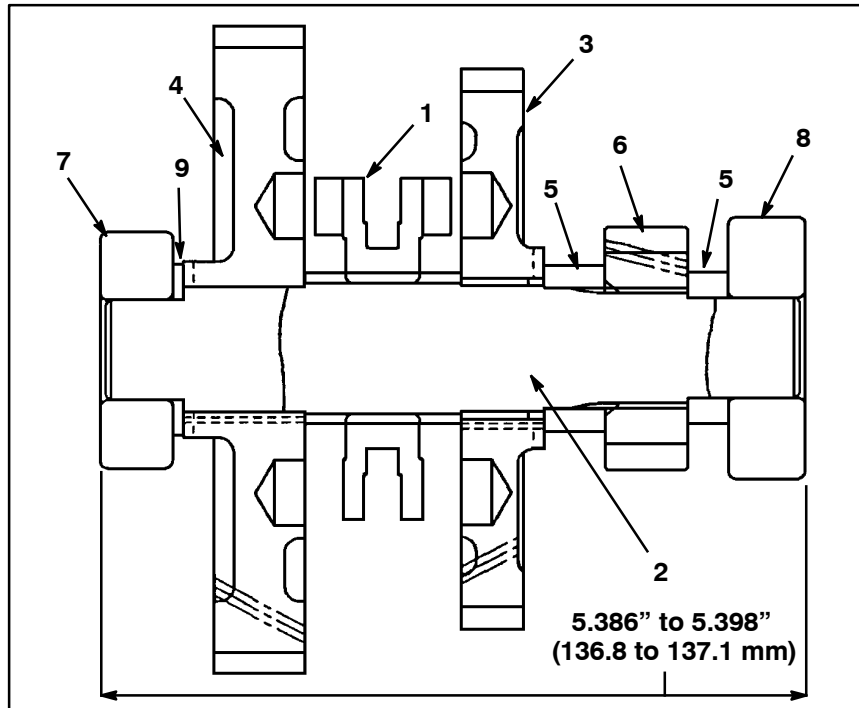

Figure 39
C. Make sure distance from one ball bearing outer edge to the other ball bearing outer edge is **5.386" to 5.398" (136.8 to 137.1 mm)** (Fig. 39).